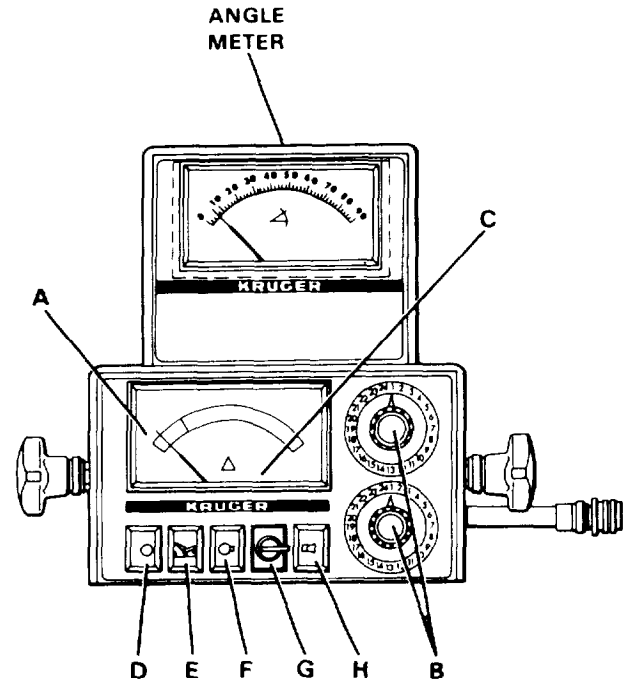

Figure 2-14. Angle Meter and Control Panel
**ANGLE METER.** This meter indicates boom angle from 0° to 90° (see Figure 2-14):
**CONTROL PANEL.** This unit contains the following items (see Figure 2-14):
- The green pilot light is ON (F, Figure 2-14).
- The red shut-off light is ON (D, Figure 2-14).
3. Press and hold the green test button (F, Figure 2-14).
5. Press the red on button (D, Figure 2-14) (shut-off light/reset button). The red shut-off light (on button) will go off when the button is released.
1. Shut-off light comes ON (D, Figure 2-14): Maximum allowable lifting capacity is being reached. Needle of the load meter is in the red. Lower the load or raise the boom and reset after corrected.
2. Pre-warning light comes ON (E, Figure 2-14): Approximately 90% of total load moment is reached. CAUTION.